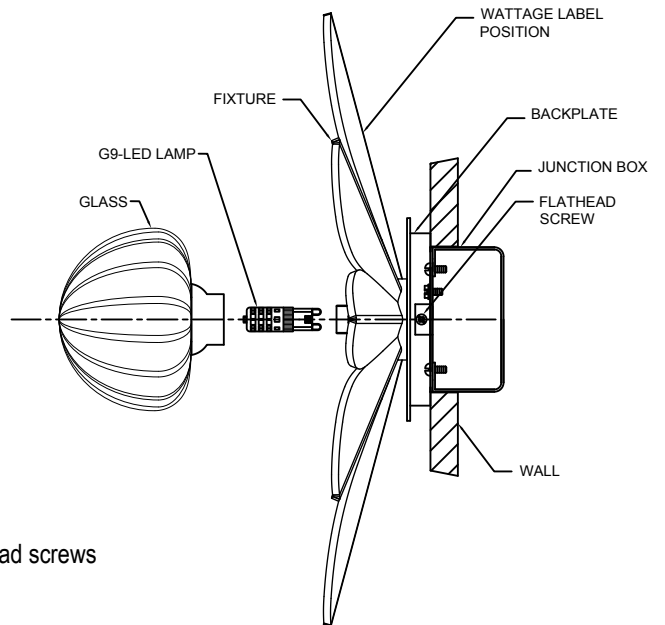

FIGURE-02
5. Attach the fixture to the mounting ring w/ wing and secure it with flathead screws (See Figure-02)
(See Figure-02)